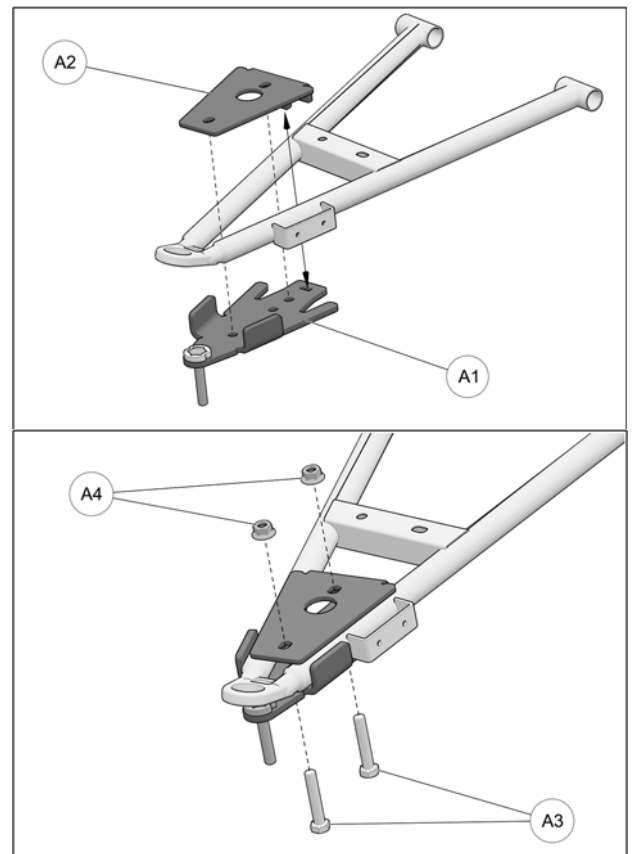

Fig. 16
6. Position bottom part of anchor bracket (A1) assembly under front lower suspension arm, as shown in the figure below. Position bracket cover (A2) over suspension arm and align holes in cover and bottom part. Insert M10x55mm bolts (A3) through top and secure the two parts together with nuts (A4) provided. Tighten assembly to 50 N•m [37 lb•ft] of torque. Refer to Fig. 16